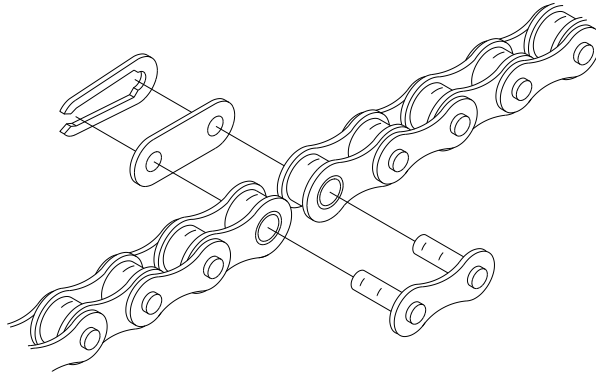

Figure 9 Chain link
3. Connect the sprockets with the drive chain, shorten to a suitable length and join together with the chain link provided in the hardware bag. To shorten the chain, punch out the pin that will leave an inside link nearest to the desired length. Connect the chain around the sprockets using the chain link (Figure 9).